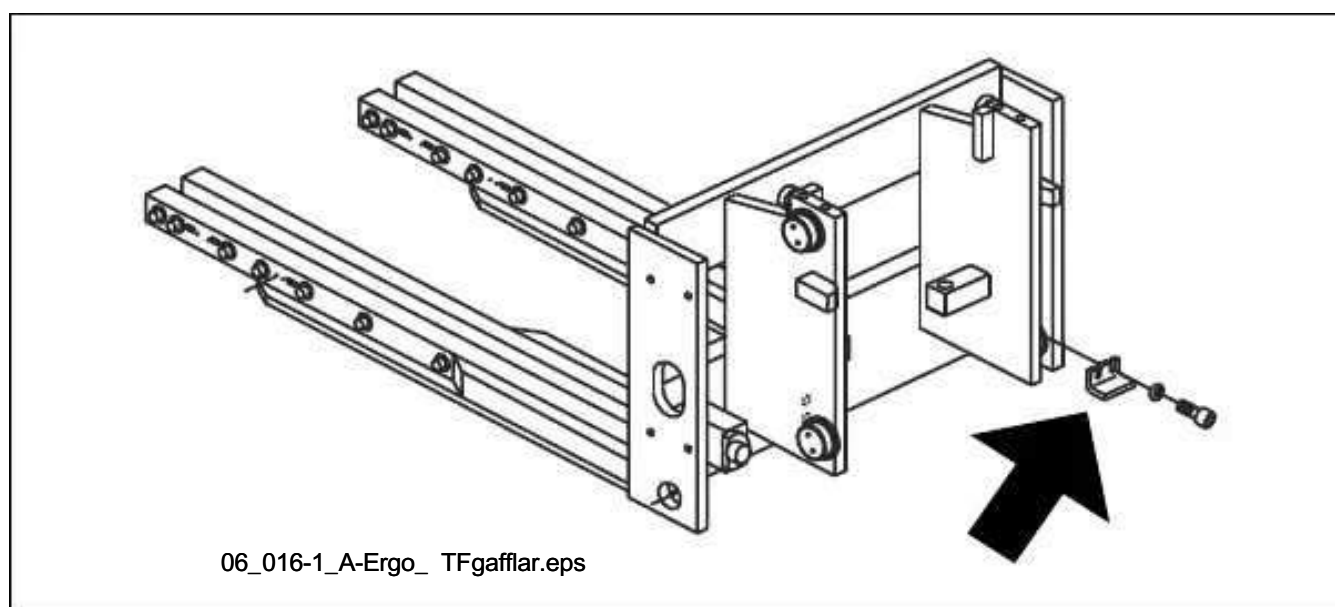

**Figure 6.29** Over-cogging protection
1. Lift the fork carriage to a suitable height to dismantle the over-cogging protection on the back of the fork carriage, see figure 6.29.